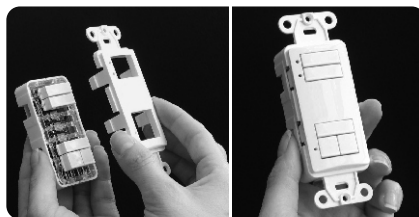

Figure 3 & 4.
3. Attach new Channel Button Face Plate (as shown in figure 3 & 4).